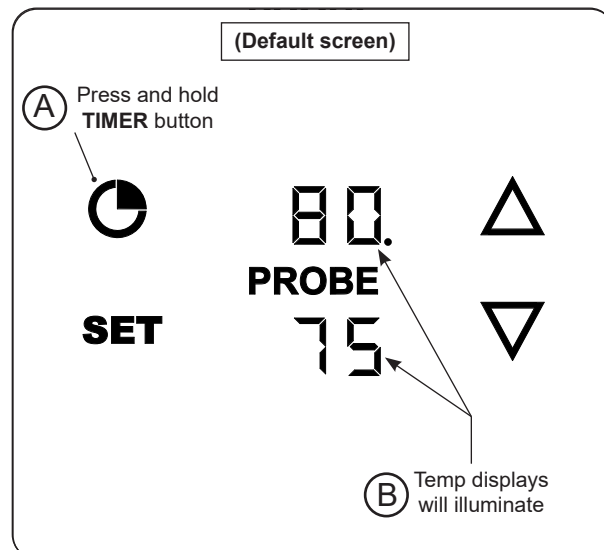

Fig. 33-1 Turn on thermometer/thermostat
3. Press and hold the **TIMER** button (Fig. 33-1, A) until the remainder of the displays illuminate (Fig. 33-1, B). This is the “**default screen**”. The default screen displays your temperatures. The top display is the grilling temperature, and the bottom display is the meat probe temperature (if plugged in).